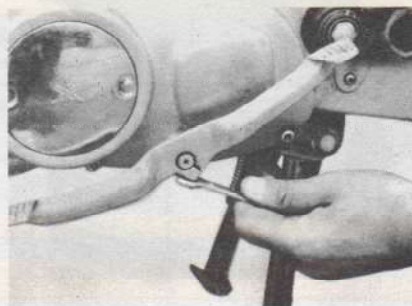

Fig. 3-12
9. Remove the gearshift pedal. (Fig. 3-12)